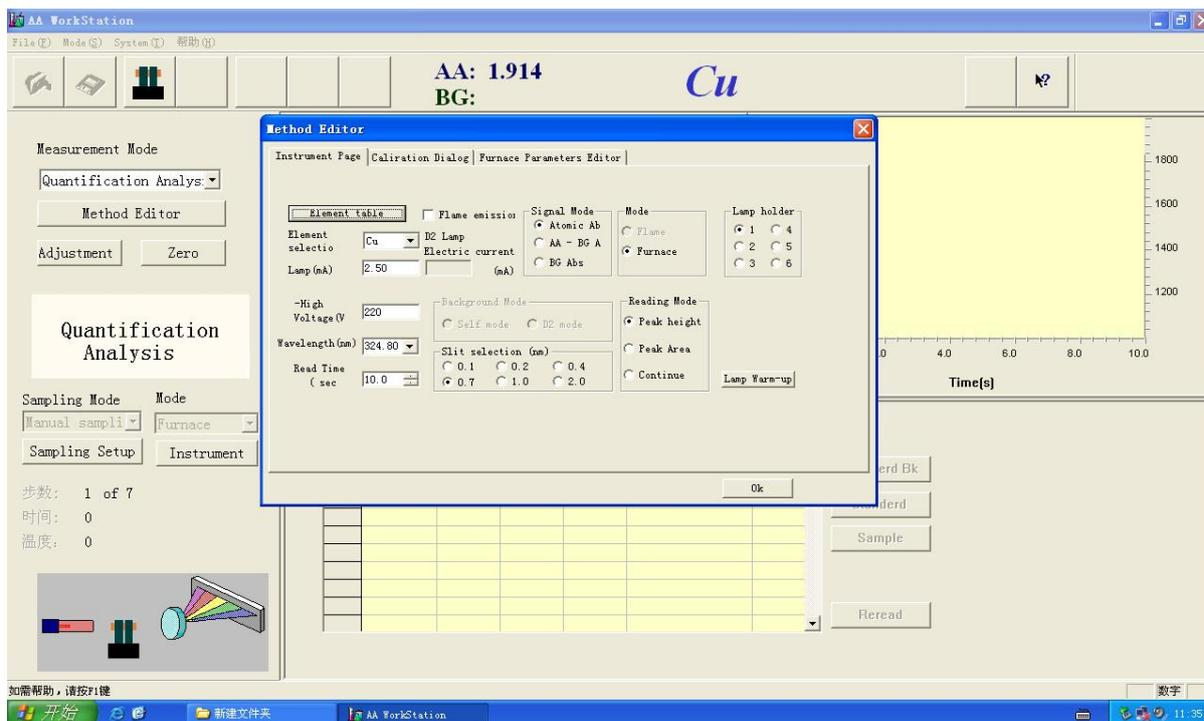
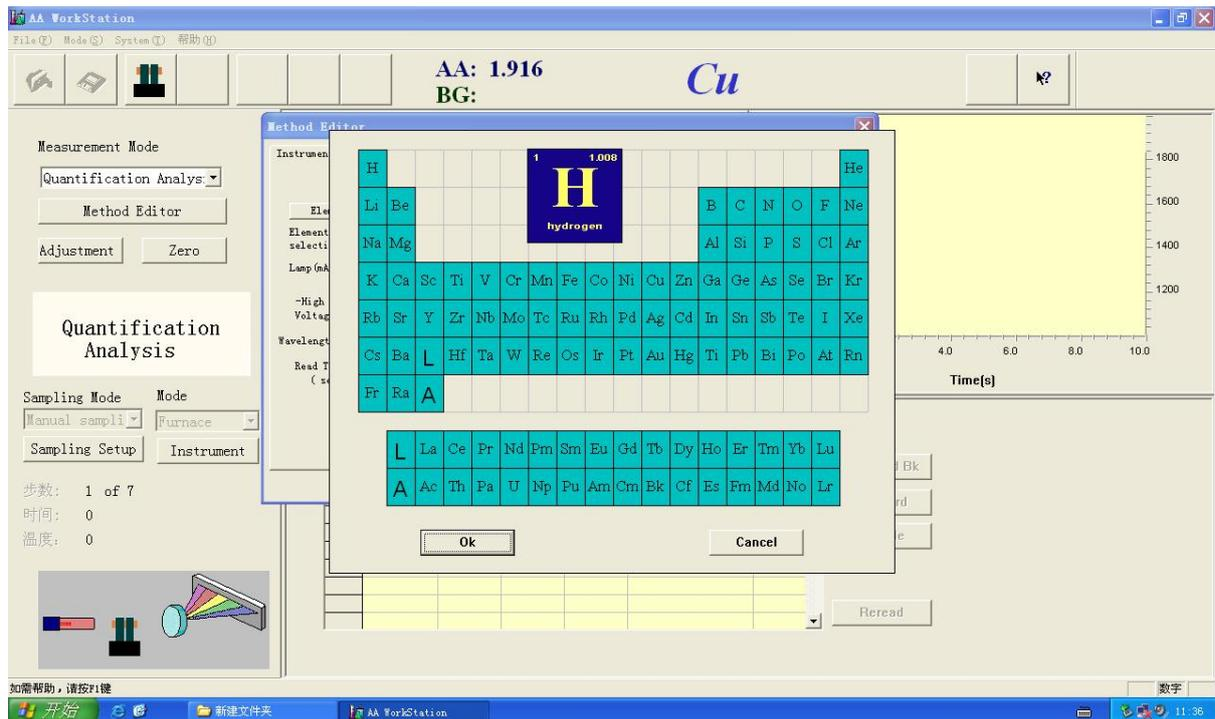

Figure 4-11
Figure 4-12
“Instrument Page”, “Caliration Dialog” and “Furnace Parameters Editor” are in the window,Figure 4-11
1. Choosing element. There are two methods to check element, one is click on the **【Element Table】** button (Figure 4-11), pop up a element table (Figure 4-12).